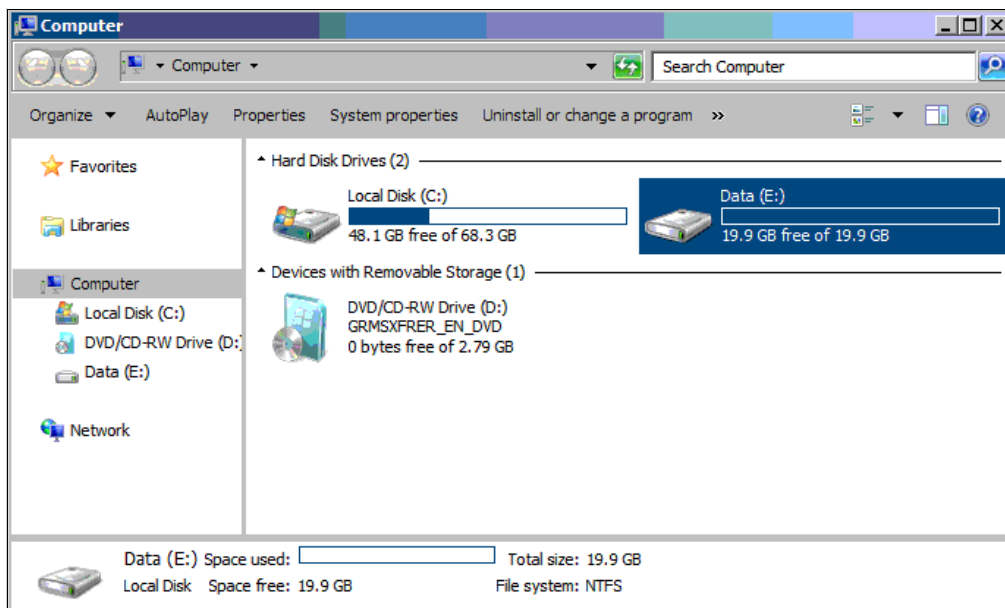

Figure 18-19 Logical drive is ready for use
4. We can now access the logical drive on the DS3500 as drive letter E: as shown in Figure 18-19.